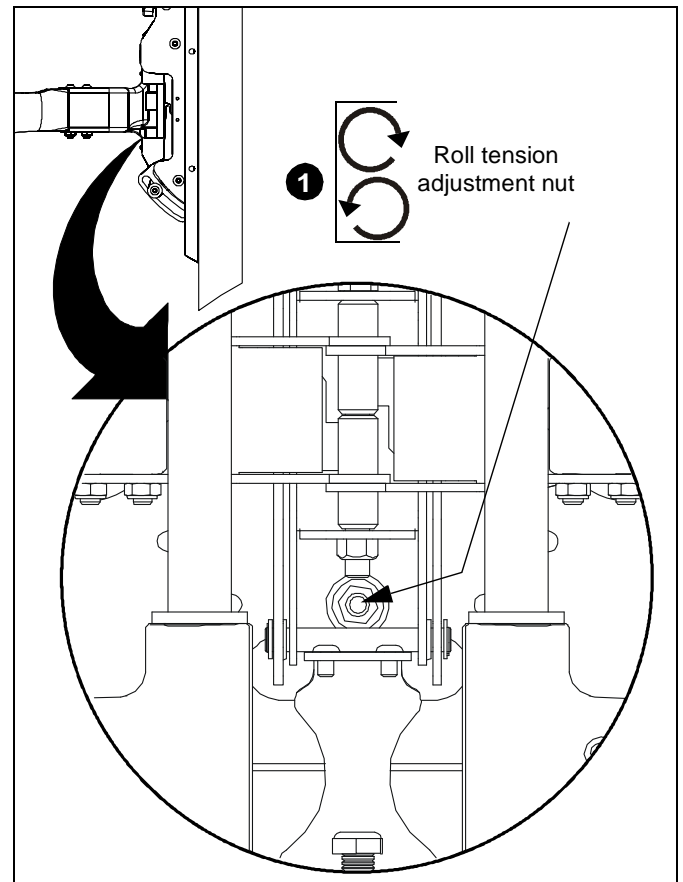

Figure 10
1. Using a 9/16" wrench (not provided), slightly tighten or loosen Roll tension adjustment nut. (See Figure 10)